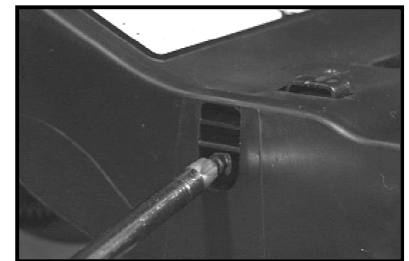

Figure 1
1. Locate and remove the two screws (one on each side of the cartridge (fig. 1)).